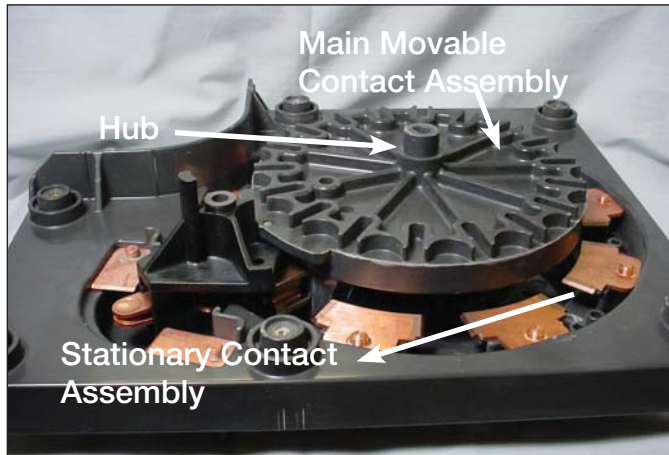

Figure 32.
- Align the center hub of the main movable contact assembly with the center hole in the tap changer drive assembly. See Figures 32 and 33.